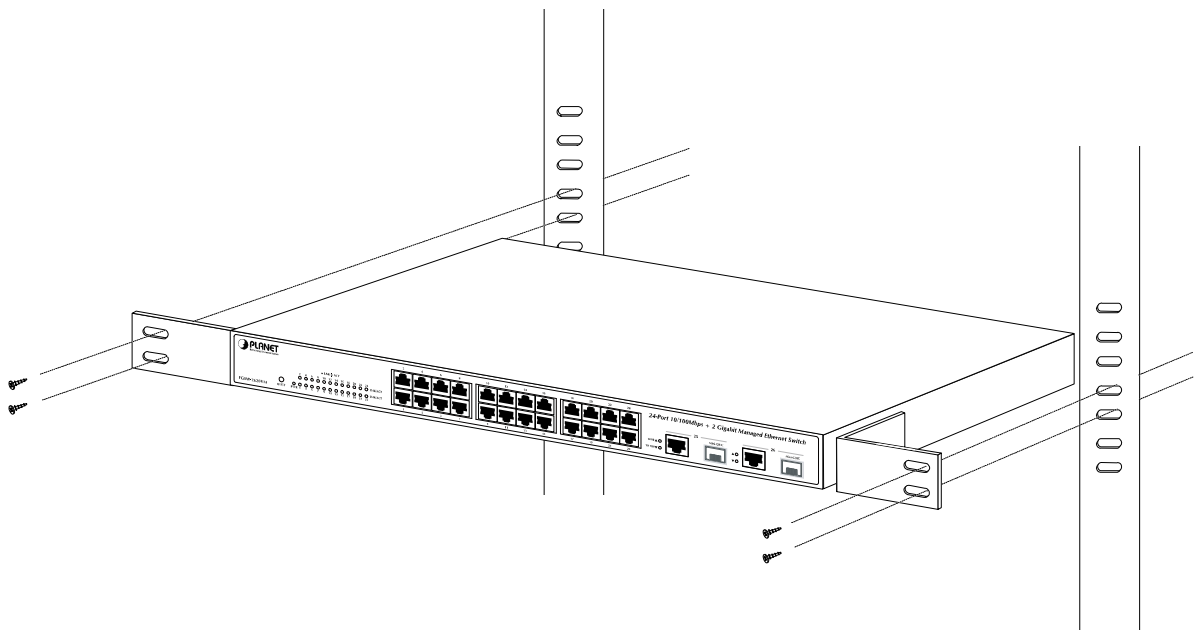

Figure 2-2-3: Mounting the Switch in a Rack
Step5: After the brackets are attached to the Managed Switch, use suitable screws to securely attach the brackets to the rack, as shown in Figure 2-2-3.